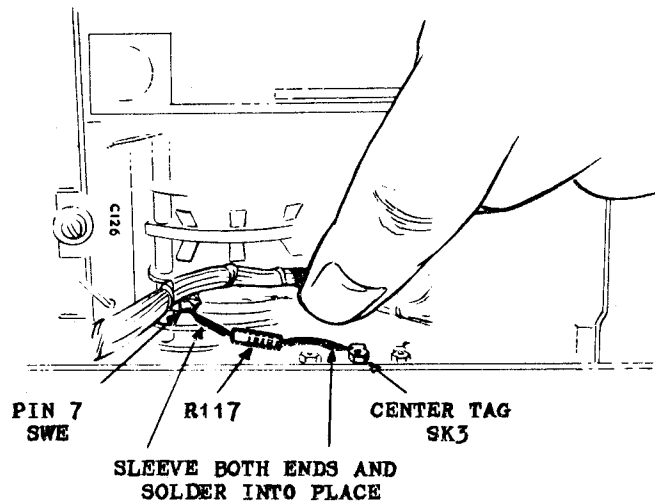

FIG. 4
10. Install R 117 in the following manner (see Fig. 4):-